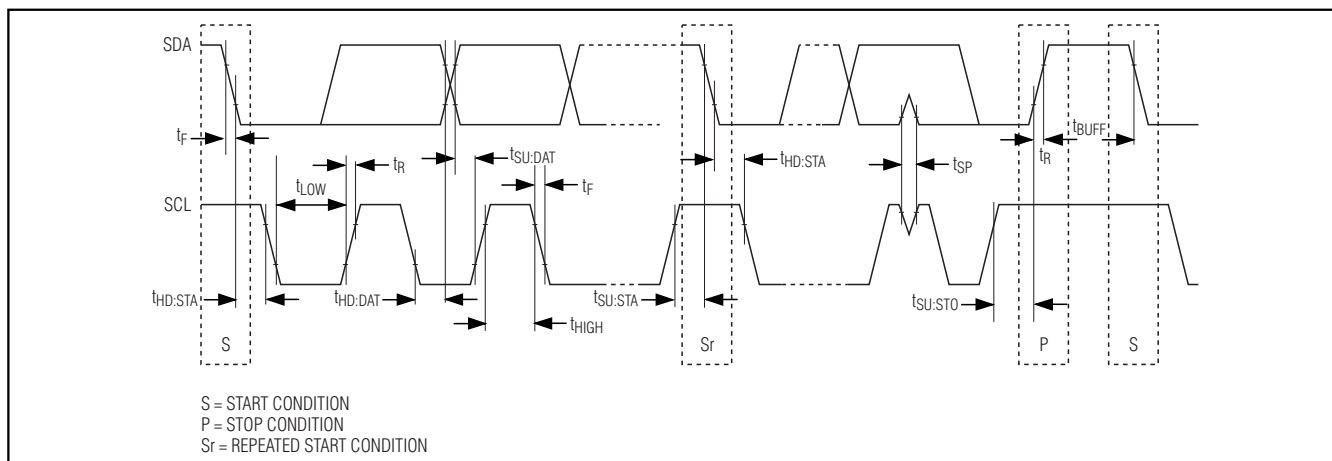

Figure 2. I2C Communication Timing Diagram
The I2C bus allows bidirectional, 2-wire communication between different ICs. The two lines are serial data line (SDA) and serial clock line (SCL). Both lines must be connected to a positive supply through individual pullup resistors (see the *Typical Application Circuit*). Data transfer can only be initiated when the bus is not busy (both SDA and SCL are high). Figure 2 shows a timing diagram for I2C communication.
Data transfer can only be initiated when the bus is not busy (both SDA and SCL are high). A high-to-low transition of SDA while SCL is high defines a START (S) condition; low-to-high transition of SDA while SCL is high defines a STOP (P) condition (Figures 2, 4). Any time a START condition occurs, the slave ID must follow immediately, regardless of completion of a previous data transfer.